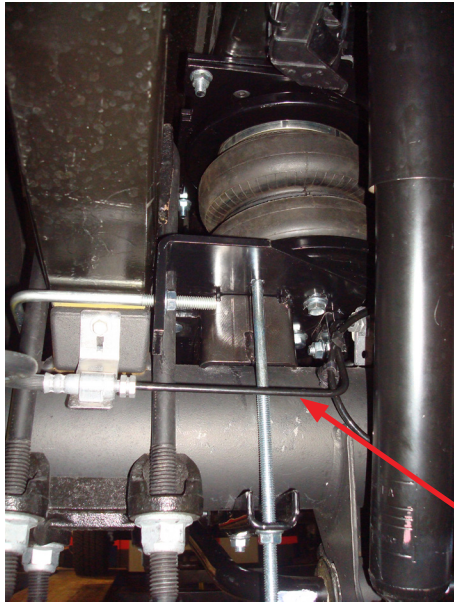

Fig. 36
On the driver's (left) side, the long carriage bolt in the lower bracket will be between the hard brake line and axle (Fig. 36). On the passenger's (right) side, the carriage bolt will be on the back side of the brake line (Fig. 37).
12. Fig. 36 and Fig. 37 show the lower bracket installed (DRW application shown).